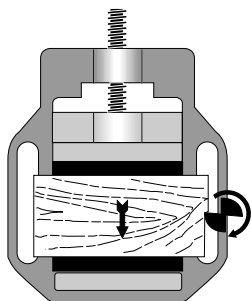

Fig. 5
7. Feed for milling edges (Fig. 5)